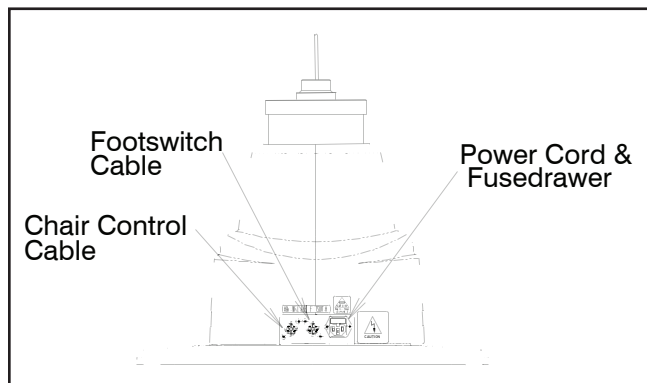

FIGURE 1
2.2.2.1. Locate the footswitch assembly, chair control cable, and the power cord assembly. Refer to Figure 1 for receptacle location and attach all cables.